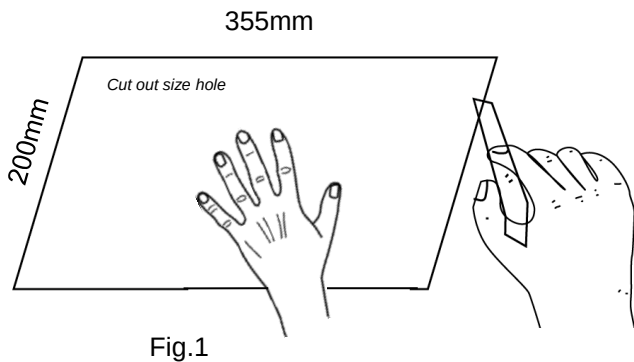

Fig.1
- 1) The recommended height of the installation is 2.4m. Before commencing installation remove the heat globes from the unit to prevent breakages. Before commencing cutting ensure that the area behind the intended location is clear of all cables, pipes and joists. Use the card provided as a template to mark the 'cut out hole' on the ceiling. The cut out hole size is 355mm x 200mm, (Fig. 1) Once clear, cut out the section along the marked lines. The unit may be mounted either between joists using the inbuilt clip fasteners or against a joist using a screw through the flange plate.